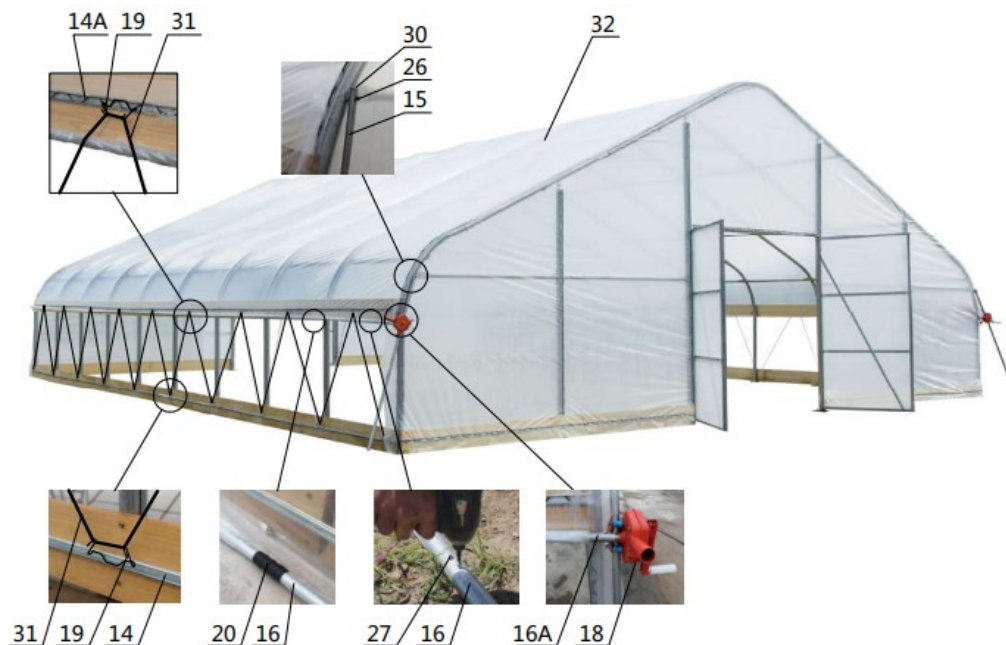

Figure 10
Step 7 : Install the film and roll film system (refer to figure 10)